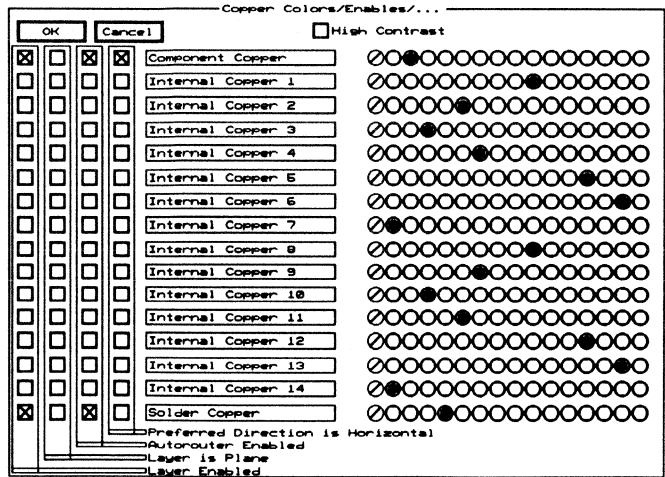

Figure 4-7. The Copper Colors/Enables/... dialog box.
2. Select **Copper Colors/Enables/...** to display the **Copper Colors/Enables/...** dialog box (figure 4-7).